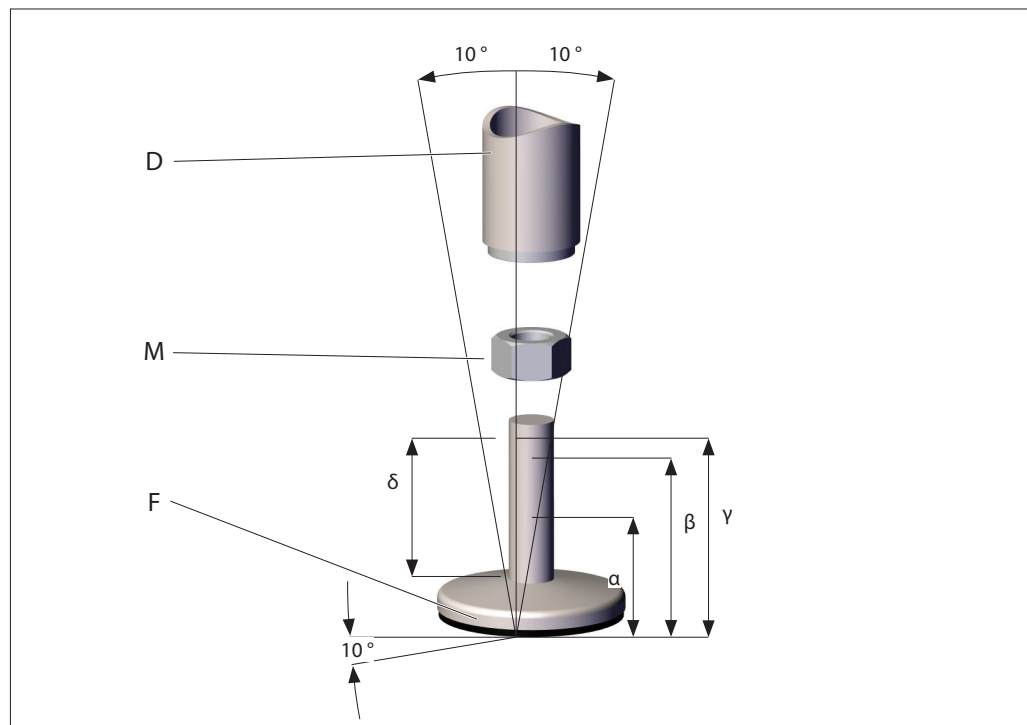

Fig. 3: Standard articulated foot – Dimensions see Tab. 7 – D: Spacer tube; F: Articulated foot; M: Nut; S: Disc; α , β , γ , δ : see Tab. 7
- When installing the base frame (with through thread/bore), the standard articulated base with two nuts and two washers is used (see Fig. 3):